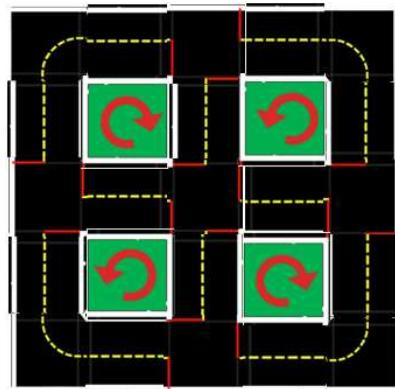

Figure 24.3. The Demo Map
Dream scenario intersection coordination: Duckiebots loop through the map as indicated in Figure 24.3. At the intersections the Duckiebots coordinate implicitly. Demo can run indefinitely without collision. Tunable: density of the traffic (fleet size) and the speed.
- The tiles to build the map in Figure 24.3